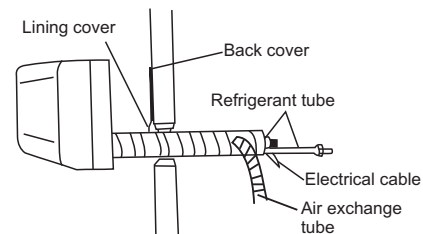

Figure 11
- 3) Bind the electrical cable drainage hose, refrigerant tube, air exchange tube together tightly with white adhesive tape; the electrical cable, refrigerant tube and the electrical cable are fixed on the back of indoor unit with wedged slab, bend the refrigeration tube and make the electrical cable and the air exchange tube through hole of the wall smoothly (figure 11).